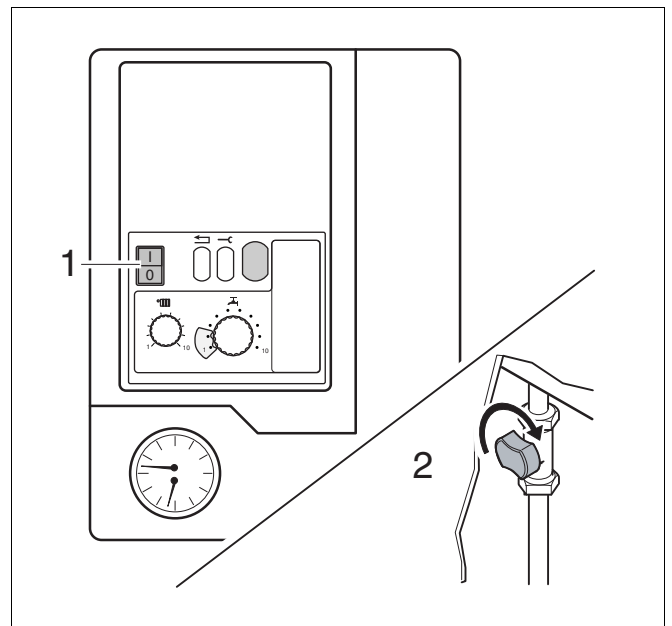

fig. 6 Mains switch, gas service valve
- Turn the mains switch (fig. 6, item 1) into position "0".
- Close the gas service valve by turning it to the right (fig. 6, item 2).